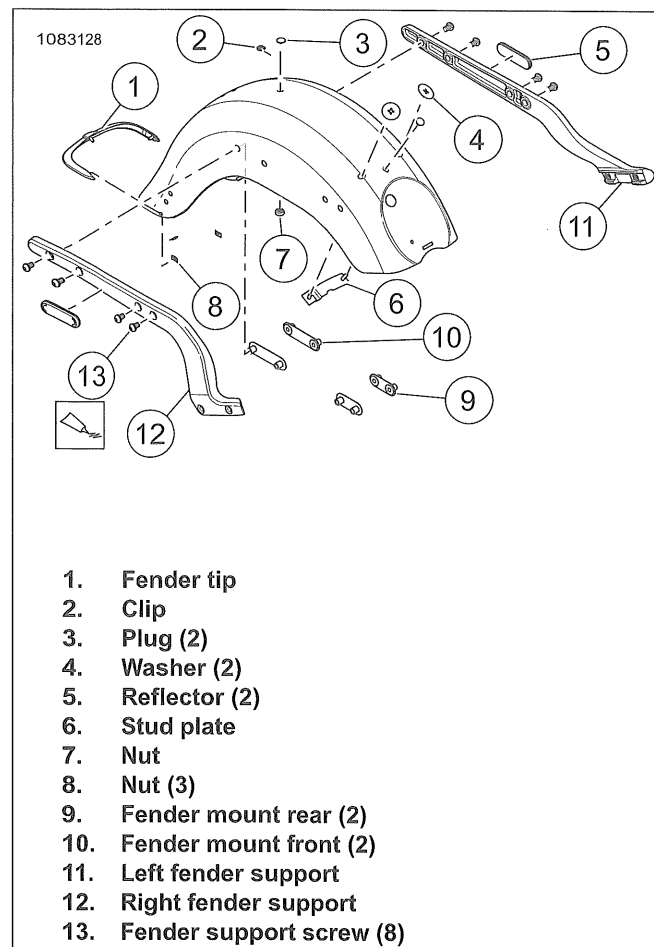

Figure 3-118. Full Fender
- 3. See Figure 3-118. Remove fender support.
- a. Remove screws (13).
- a. Remove nuts (8).
- b. Remove fender tip (1).
- a. Hold nut (7).
- b. Remove clip (2).
1. See Figure 3-118. Install stud plate.
- a. Position stud plate (6) on fender.
- b. Install washers (4).
- a. Position nut (7) through fender.
- b. Install clip (2).
- c. If equipped, install plugs (3).
- a. Position fender tip (1) on fender.
- b. Install nuts (8).